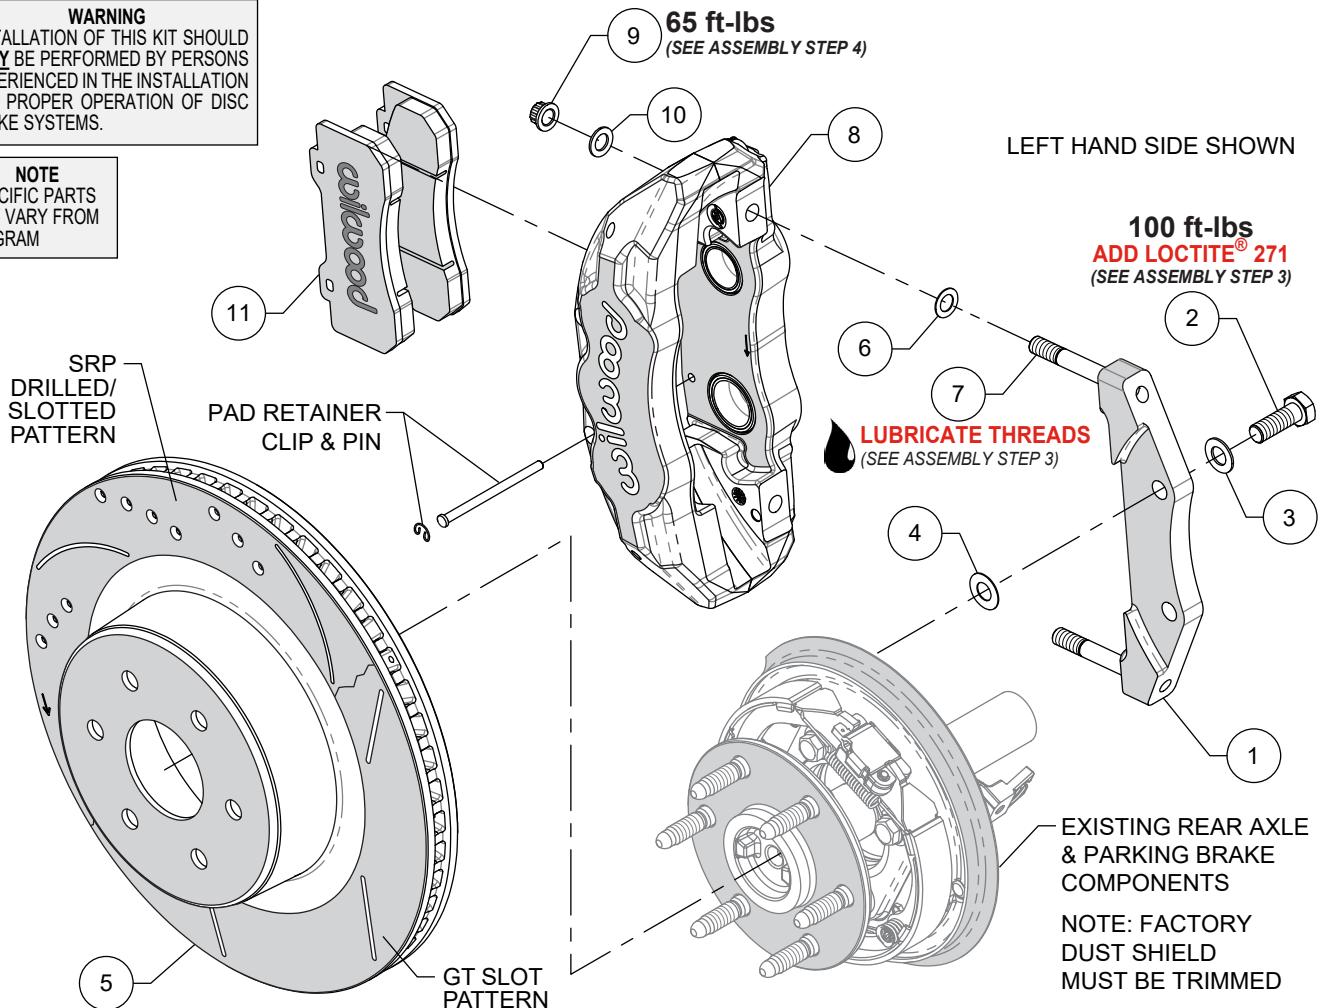

Figure 1. Typical Installation Configuration
NOTE: Numbers in parenthesis refer to the parts list and Figure 1 on the preceding pages.
STEP 1 The caliper mount bracket (1) should initially be installed with clean, dry threads on the mounting bolts. Orient the bracket as shown in Figure 1 and Photo 1, and install using bolts (2) and washers (3). Initially place one .029" thick shim (4) on each bolt
between the bracket and OEM caliper mount bosses, Figure 1 and Photo 2 (arrow). Temporarily tighten the mounting bolts. **NOTE:** The bracket must fit squarely against the mount bosses. Inspect for interference from casting irregularities, machining ridges, burrs, etc. Later, after the caliper alignment has been checked, the mount bolts will be secured using red Loctite® 271.
STEP 2 Slide the rotor (5) onto the axle flange. **NOTE:** The rotor must fit flush against the axle flange or excessive rotor run out may result. Install three lug nuts (finger tight) to keep the rotor in place while continuing with the installation, Photo 3.
STEP 3 NOTE: This kit contains distinct right and left hand calipers that must be mounted in a specific direction, as described below. Lubricate the caliper mounting studs (7) with lightweight oil. Initially place one .032" thick shim (6) on each stud as shown in Figure 1 and Photo 4. Mount the caliper (8) onto the bracket (1) using lock nuts (9) and washers (10), Figure 1. Ensure that
subtracting shims (4) between the bracket and the OEM caliper mount bosses. Always use the same amount of shims on each of the two mounting bolts. Once the caliper alignment is correct, remove the bracket mounting bolts (2) one at a time, apply red *Loctite*® 271 to the threads, and torque to value shown in Figure 1.
STEP 4 Remove the two pad retaining pins from the caliper by carefully popping out the pin retaining clips and sliding out the pins. Insert the brake pads (11) into the caliper, with the friction material facing the rotor, as shown in Photo 6, and secure the brake pads in place with the pad retaining pins and clips, as shown in Figure 1. Check that the top of the brake pad is flush with the outside diameter of the rotor, Photo 7. If not, adjust by adding or subtracting shims (6) between the caliper (8) and the bracket (1). After the caliper pad height is set, torque the caliper lock nuts to value shown in Figure 1.